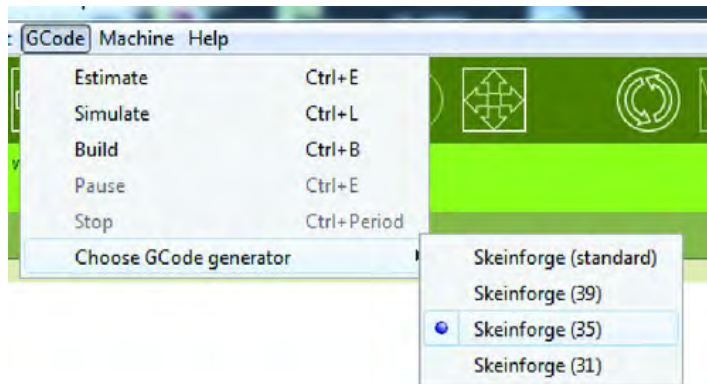

Figure 20-21. Select Skeinforge (35) as the Gcode Generator.
You'll first need to prepare Skeinforge by selecting the Skeinforge Gcode generator that will be used. Do that by clicking on GCode ► Choose GCode Generator ► Skeinforge (35), as shown in Figure 20-21.